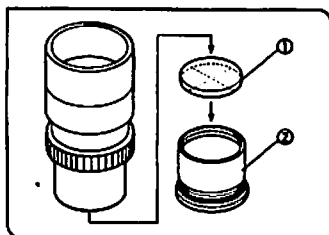

Fig. 50
(Fig. 50)
Use 24 mm diam. X 1.5 mm micrometer discs. Following Fig. 50, unscrew the micrometer frame (2) from the eyepiece and place a micrometer disc (1) into the frame. The engraving on the micrometer disc (1) should face downward into the micrometer frame (2). Screw the micrometer frame into the eyepiece as it was before.